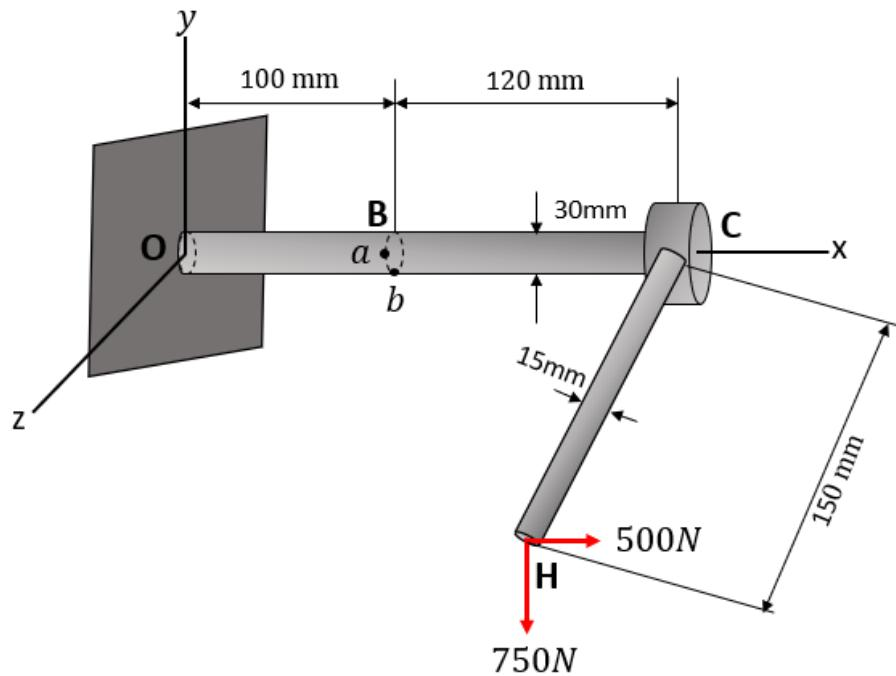

Figure 3
4. Consider the elastic structure shown in the Fig. 3, where a force equal to $(500 \mathbf{e}_1 - 750 \mathbf{e}_2)$ N is applied at the end of the segment CH parallel to the z-axis.